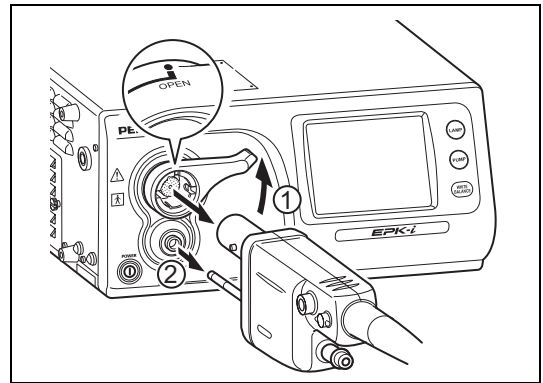

Figure 5.1
- 3 Remove the scope from the processor. (Refer to Figure 5.1.)**